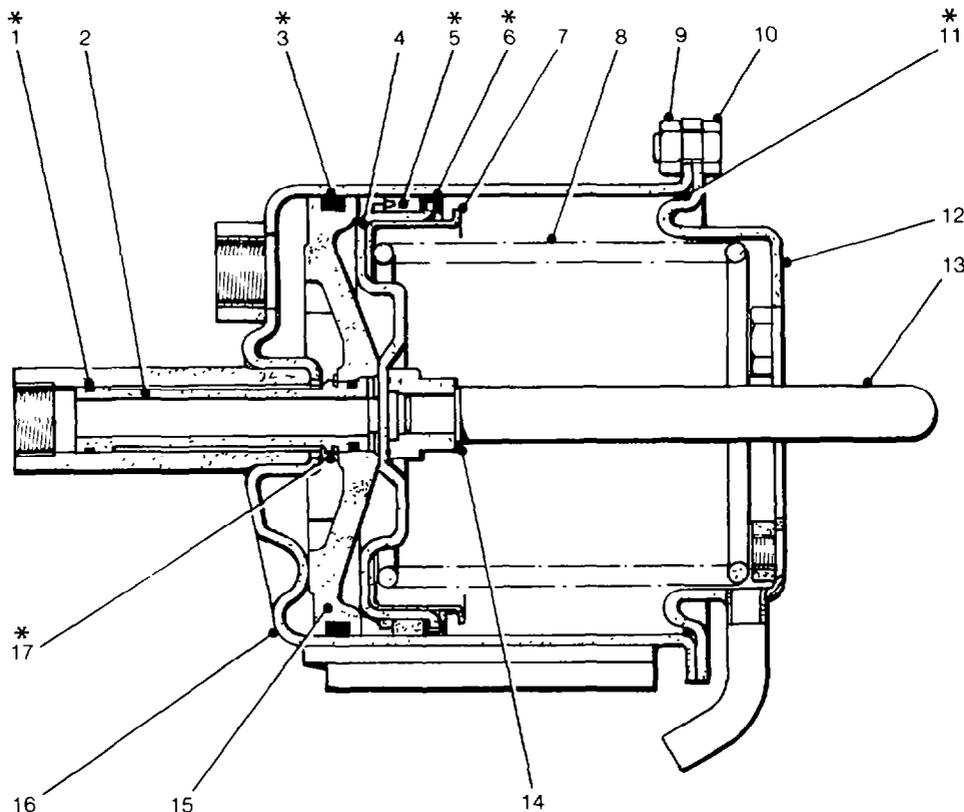

Figure 82 Pneumatic Brake Master Cylinder (Wabco)
94. Dismantling. Dismantle the pneumatic master cylinder as follows (see Fig 82):
NOTE All parts marked * in Fig 82 should be replaced.